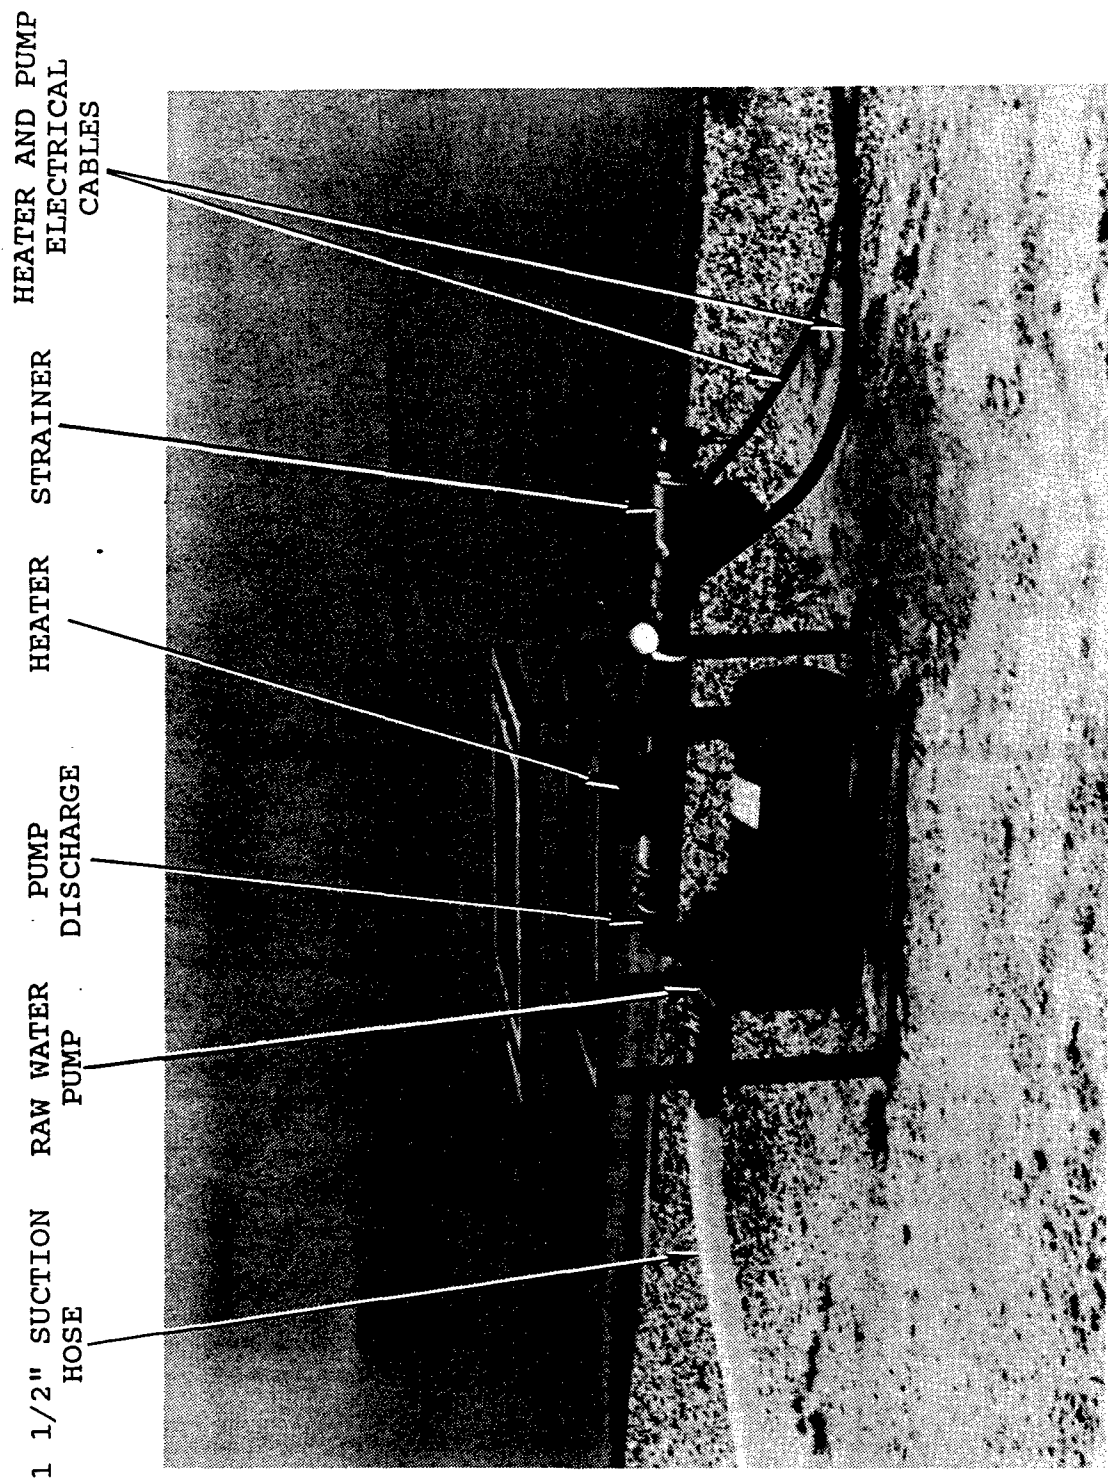

Figure 2-4. Heater and Strainer Installation.
- c. Attach the heater/strainer piping assembly to the hose connection at the discharge of the pump as depicted in figure 2-4.